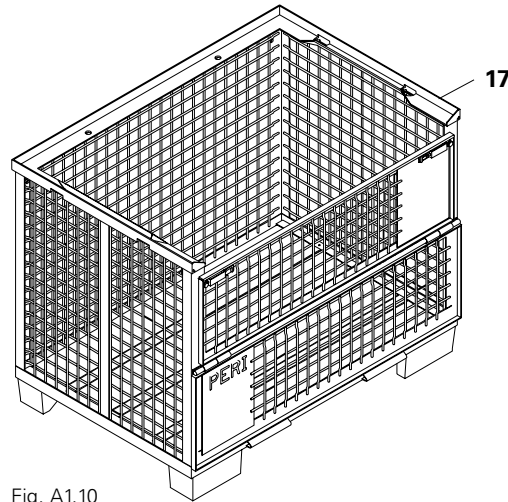

Fig. A1.10
The Crate Pallet 80 x 120 (17) is used to store GRIDFLEX Prop Heads, for example. (Fig. A1.10)